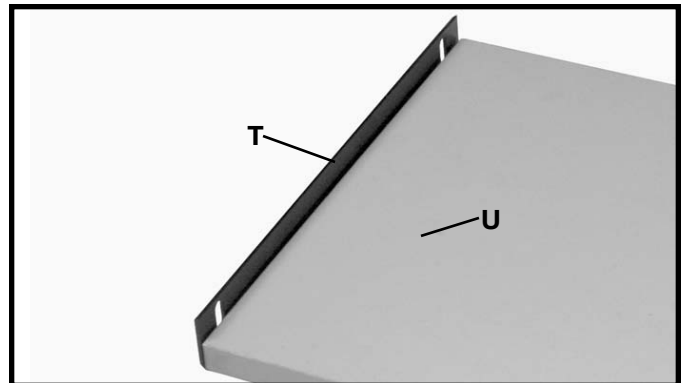

Fig. 50
14. Fasten lower shelf bracket (T) Fig. 50, to one end of lower shelf (U) using two #8 x 7/8 inch-long wood screws supplied as shown in Fig. 50. **IMPORTANT:** The side of the bracket (T) Fig. 50, with the narrow slots should be against the table.
15. Fasten bracket (T) Figs. 50 and 51, to saw cabinet as shown using two 1/4-20 x 5/8" hex head screws and two 1/4" flat washers. Place a flat washer onto a screw and insert screw through bracket and thread into mounting hole in saw cabinet, and tighten securely. Repeat this same procedure for the other hole.